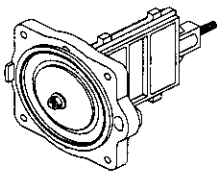
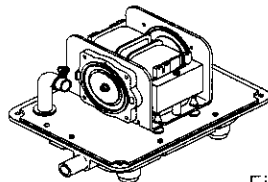

Fig.11
Fig.12
⑦ Attach new diaphragm mounting block to one side of rod (refer to fig.11). Insert rod into casing block as reverse procedure to remove rod from casing block. Attach opposite new diaphragm to mounting block (refer to fig.12). To avoid failure, make sure that no foreign material or fragments such as screws stick to permanent magnet on rod or electromagnet.